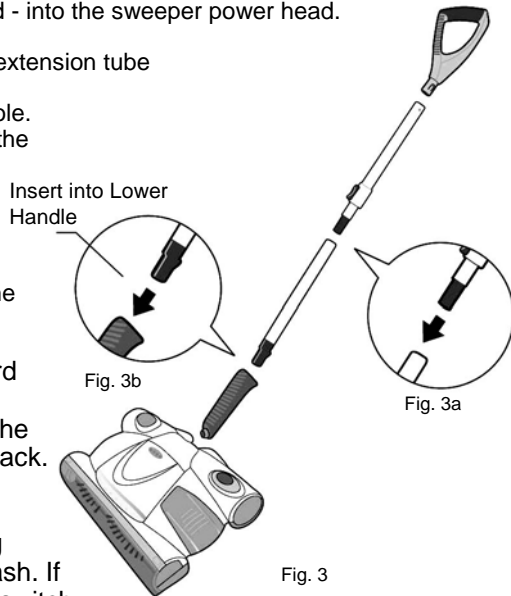

Fig. 3
3. Attach the telescoping tube to the extension tube by pushing the plastic insert into the bottom part of the telescopic pole. (Fig. 3a) Push in until the "tab" on the plastic insert snaps into the open slot on the telescopic tube. Push the telescoping tube into the upper handle. (Fig. 3) Insert the extension tube into the lower handle so that the "tab" on the plastic insert snaps into the open slot on the lower handle. (Fig. 3b)